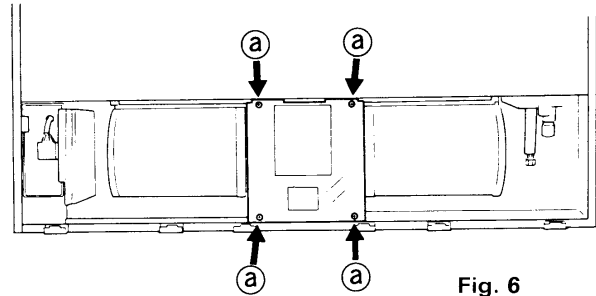

Fig. 6
- (1) Remove the drain pipe.
- (2) Remove the suction grille from the unit body.
- (3) Remove the four screws (a) fixing the fan motor cover.
- Fig. 6